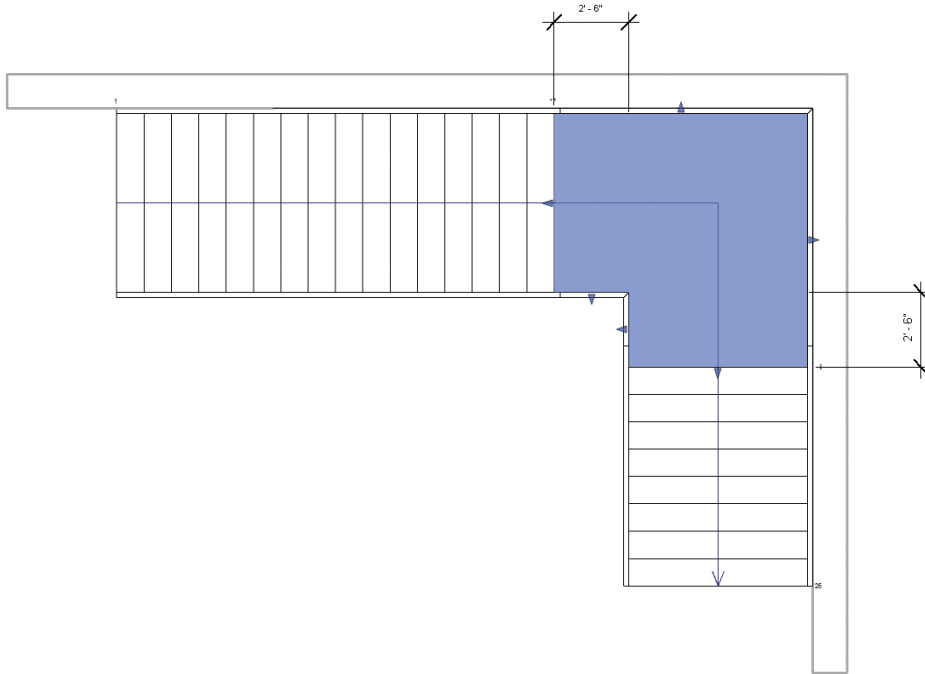

FIGURE 4.19 Landing adjustment
7. Open the Level 1 floor plan view. Select the landing, and using the shape handles adjust it to be 2'-6" (760 mm) on each side that meets the run (Figure 4.19).